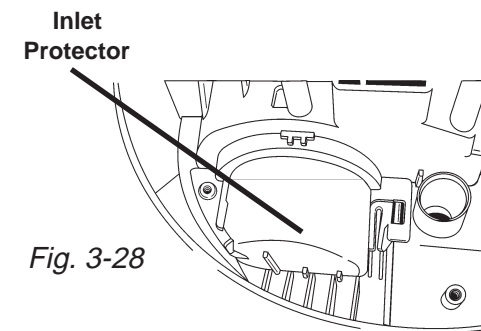

Fig. 3-28
4. Remove the screw securing the inlet protector to the sump base and lift the inlet protector out. (Fig. 3-28)